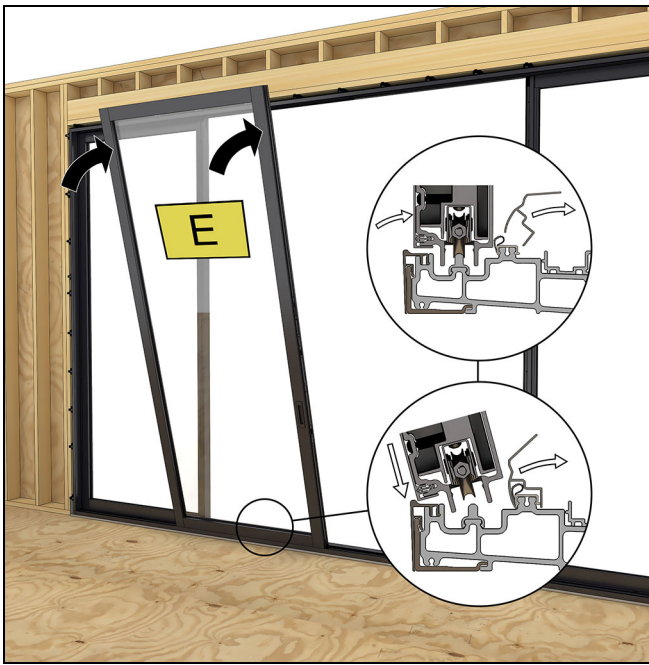

Figure 118
3. Install the (E) operator panel. Overlap the stationary panel by a few inches and tip into place. See Figure 118.